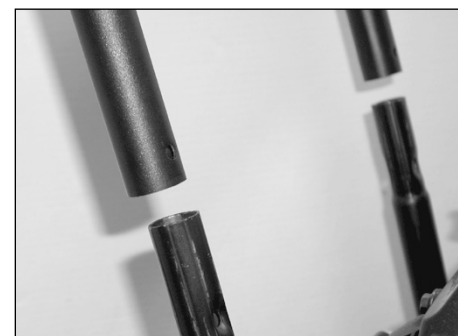

Figure 1 - Assemble Handle
1. Slide the handle assembly over the lower legs of the cart base. Use the standard nut and bolt to secure the right rear leg. See Figure 1.